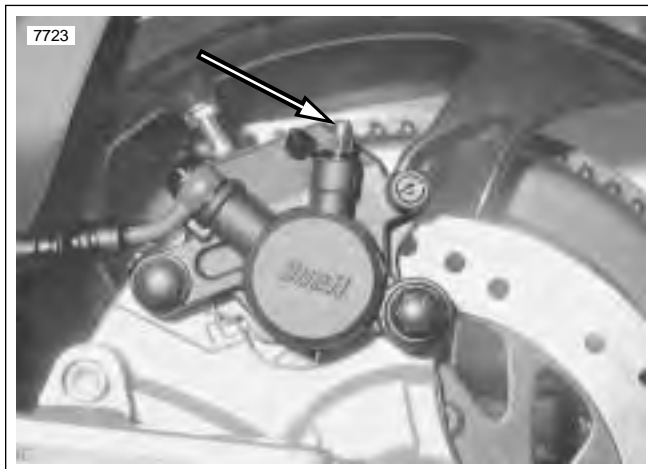

Figure 2-46. Rear Caliper Bleeder Valve (Metric)
- a. See Figure 2-46. Remove cap from rear caliper bleeder valve. Open bleeder valve (metric) about 1/2 turn.